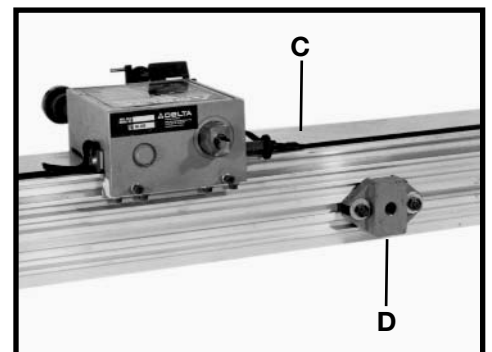

Fig. 34
3. Attach remaining mounting pad (D) Fig. 34 to the other end of duplicator rail (C) in the same manner.